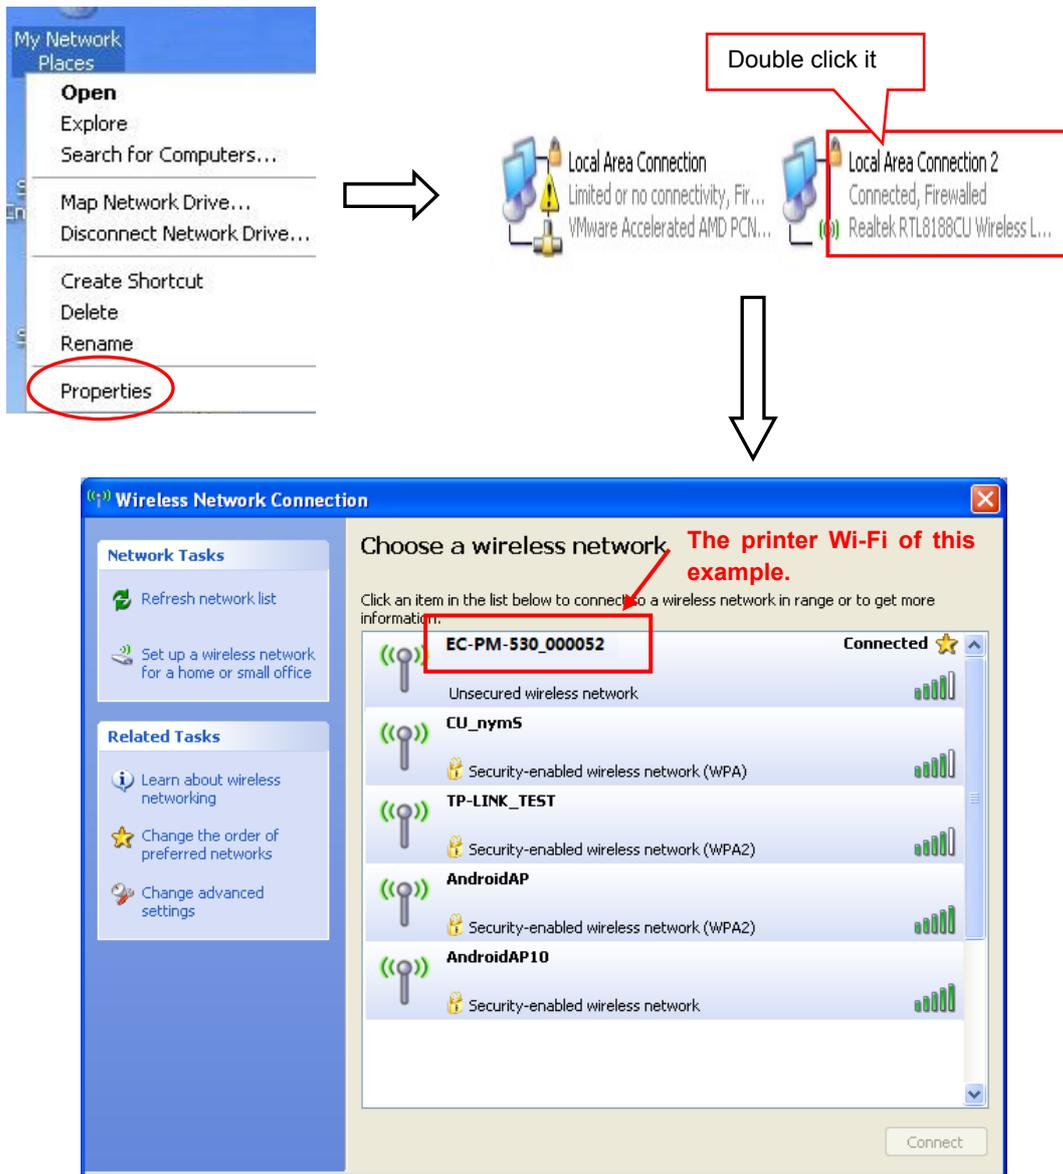

Figure 1
2. Right click "My Network Places", and then click "Properties" to find the "Local Area Connection 2". Double click it and the window of "Wireless Network Connection" pops up, select and double click the corresponding printer Wi-Fi name. The printer Wi-Fi default name is composed by "the printer model+6 numbers and letters" (as shown in Figure 1)